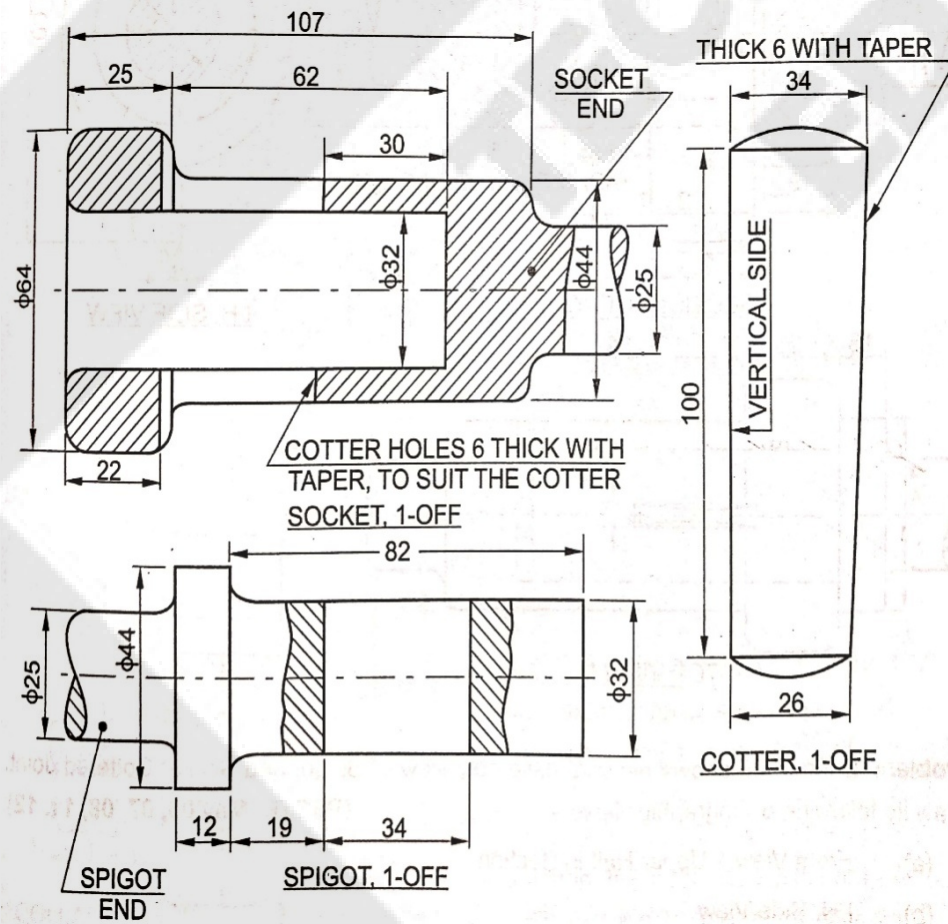

Figure 1
- c. **Figure 1** show the detail drawings of spigot and socket cotttered joint. Assemble all these parts and draw    i) Sectional front view    ii) Top view    iii) Left hand side view.